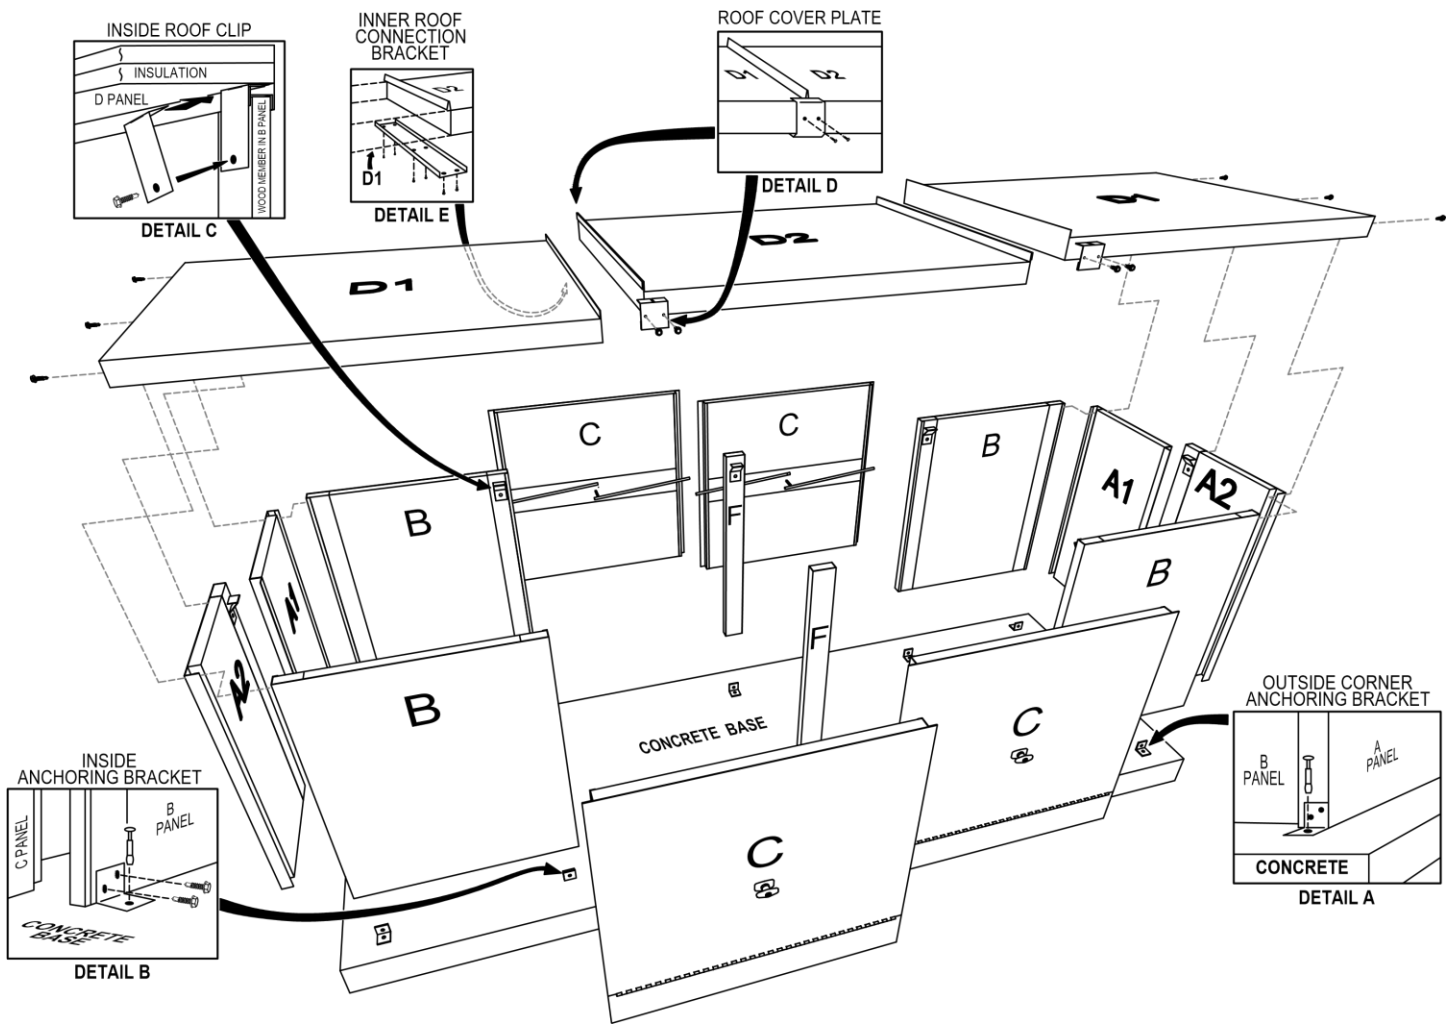

FIG. 2
7. Use the “C” (access) panels for support while placing one of the “D1” (roof) panels on a “B-A1-A2-B” (corner-end-corner) assembly and then fasten the roof as shown through the holes provided (Fig. 2) using three (3) Hex Head Screws.